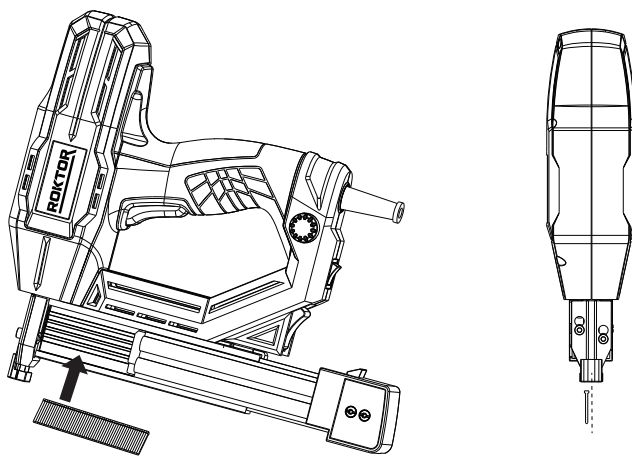

Fig. 2
- The nail strip is loaded with the tapered end aligning with the bottom line of the magazine C, so the brad nail head rests right into the grooves which corresponds with the symbol of nail length on tacker D (See Fig. 2).